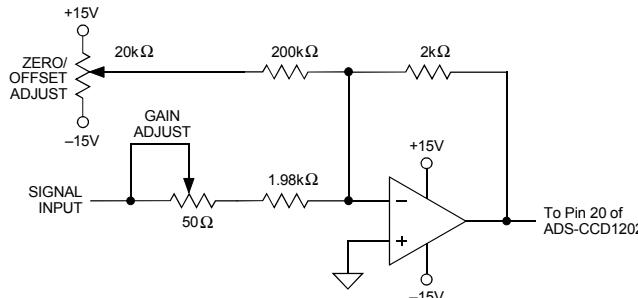

Figure 2. ADS-CCD1202 Calibration Circuit
Bypass all power supplies, as well as the REFERENCE OUTPUT (pin 21), to ground with $4.7\mu\text{F}$ tantalum capacitors in parallel with $0.1\mu\text{F}$ ceramic capacitors. Locate the bypass capacitors as close to the unit as possible. If the user-installed offset and gain adjusting circuit shown in Figure 2 is used, also locate it as close to the ADS-CCD1202 as possible.
2. ADS-CCD1202 achieves its specified accuracies without external calibration. If required, the device's small initial offset and gain errors can be reduced to zero using the input circuit of Figure 2. When using this circuit, or any similar offset and gain-calibration hardware, make adjustments following warmup. To avoid interaction, always adjust offset before gain.
CALIBRATION PROCEDURE (Refer to Figures 2 and 3)
Any offset and/or gain calibration procedures should not be implemented until devices are fully warmed up. To avoid interaction, offset must be adjusted before gain. The ranges of adjustment for the circuit of Figure 2 are guaranteed to compensate for the ADS-CCD1202's initial accuracy errors and may not be able to compensate for additional system errors.
All fixed resistors in Figure 2 should be metal-film types, and multi-turn potentiometers should have TCR's of 100ppm/ $^{\circ}$ C or less to minimize drift with temperature. In many applications, the CCD will require an offset-adjust (black balance) circuit near its output and also a gain stage, presumably with adjust capabilities, to match the output voltage of the CCD to the input range of the A/D. If one is performing a "system I/O calibration" (from light in to digital out), these circuits can be used to compensate for the relatively small initial offset and gain errors of the A/D. This would eliminate the need for the circuit shown in Figure 2.